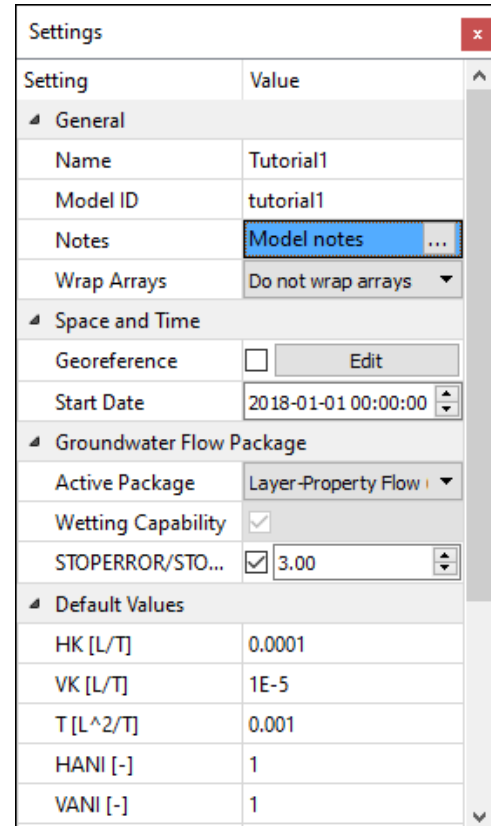

Figure 21. The Settings Window of a model
5. **OK:** Click OK to create the model. If the model is created successfully, a model item will be added to the Models group on the TOC and the model item will be highlighted in yellow indicating that the new model is set as the active model. By clicking on the model item, you have access to the Settings window (Figure 21) of the model that includes the following functions.